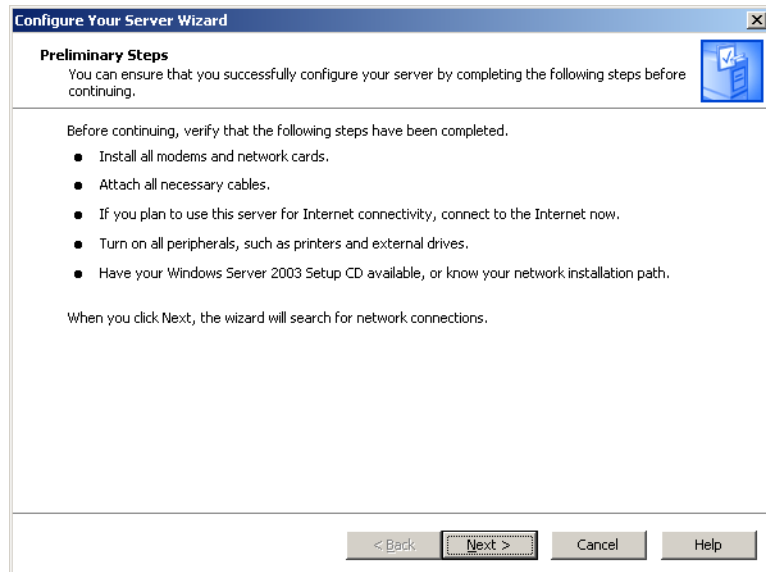

Figure D-43 Preliminary steps screen
2. Review the information in the **Preliminary Steps** screen shown in figure D-43 before proceeding and then click then **Next** button to proceed.